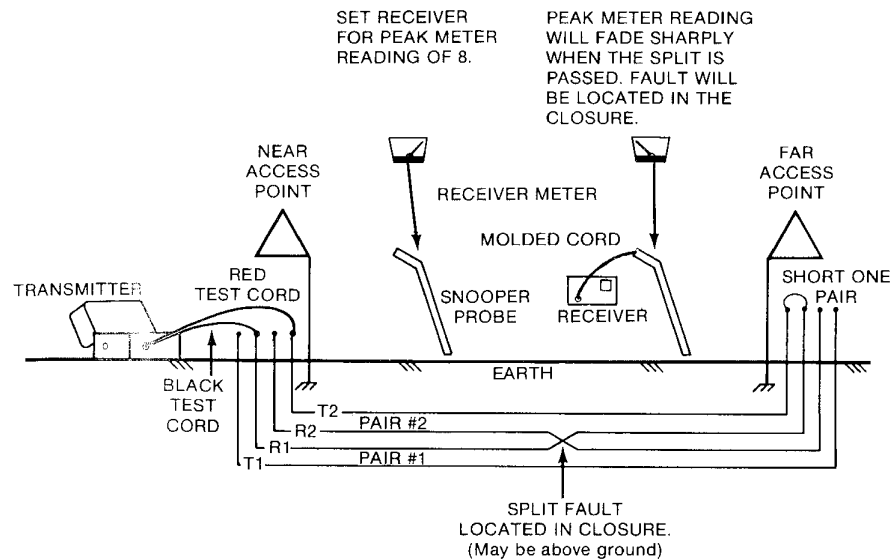

Figure 3-7.
1. Disconnect and isolate the cable sheath and one of the two wire pairs (associated with the split fault) at the far access point. Short together the isolated wire pair (see Figure 3-7).
2. Disconnect and isolate the cable sheath and necessary wires at the near access point (see Figure 3-7).
3. Hook up the red and black test cord clips at the near access point (see Figure 3-7).
4. Plug the jack end of the red/black test cord into the TRACING TONE jack receptacle on the transmitter (see Figure 3-7).